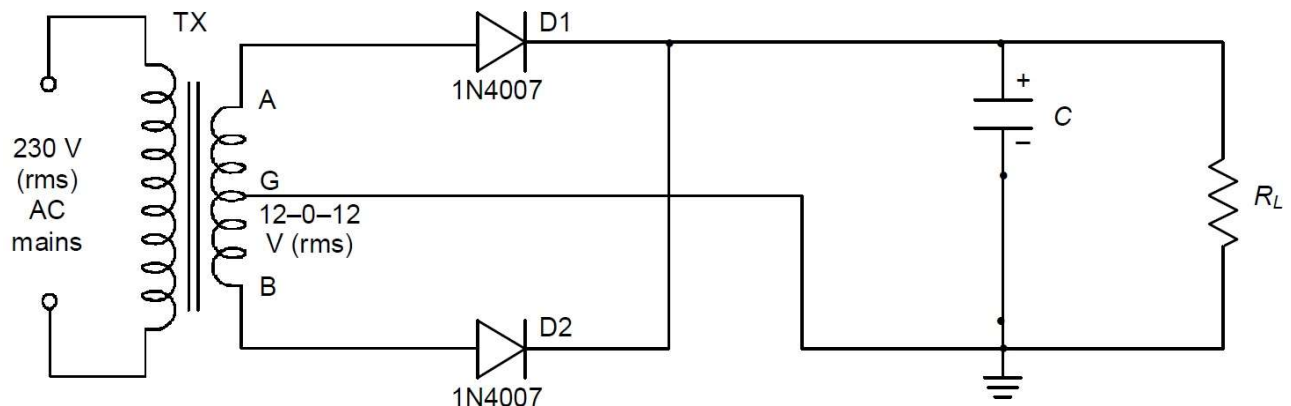

Fig. 1
1. Set up the circuit as shown in Fig.1 without the capacitor C. The transformer TX has rating of 230V to 12-0-12V, 1A and  $R_L = 1k\Omega$ . Connect the transformer primary to the mains and switch on the mains.
5. Now connect  $C = 100\mu F$  as shown in Fig.1. Sketch  $V_0$  and measure  $V_r$  (peak-to-peak ripple voltage). Set the oscilloscope channel to AC coupling and increase vertical sensitivity (decrease V/div) while measuring  $V_r$ .